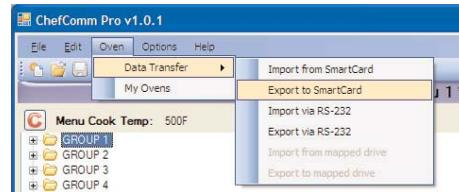

Figure 32: Export Menu to Smart Card
3. Select **Oven > Data Transfer > Export to Smart Card** (Figure 32).